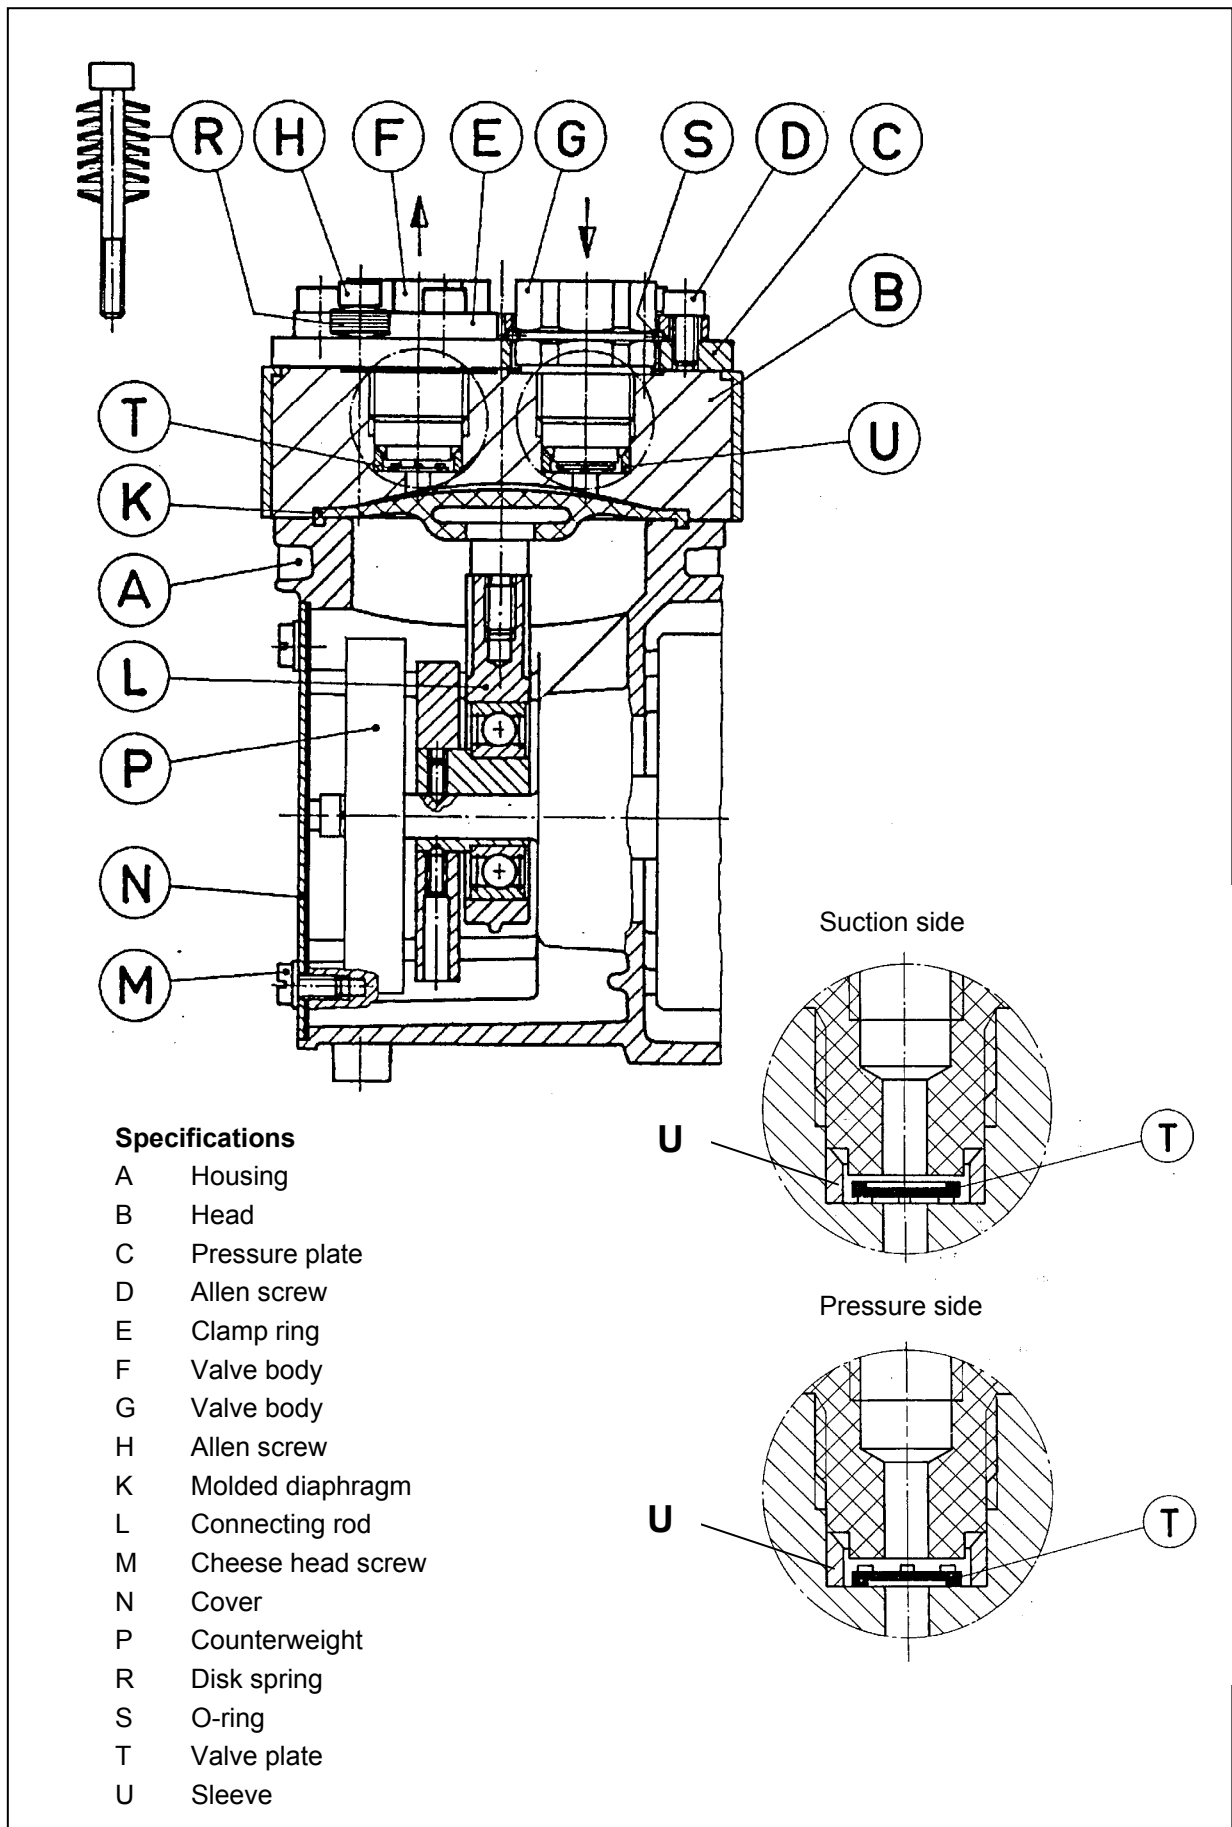

Fig. 4: Pump parts
** According to Fig. 4.
i The position letters in the following text refer to fig. 4.
2. Take sleeve U out of both holes of head B and put one new sleeve into each hole. For the position of sleeves see detailed view in Fig.4.
i Observe the correct position of the valve plates (see detailed view in Fig. 4):
*according to Fig. 4